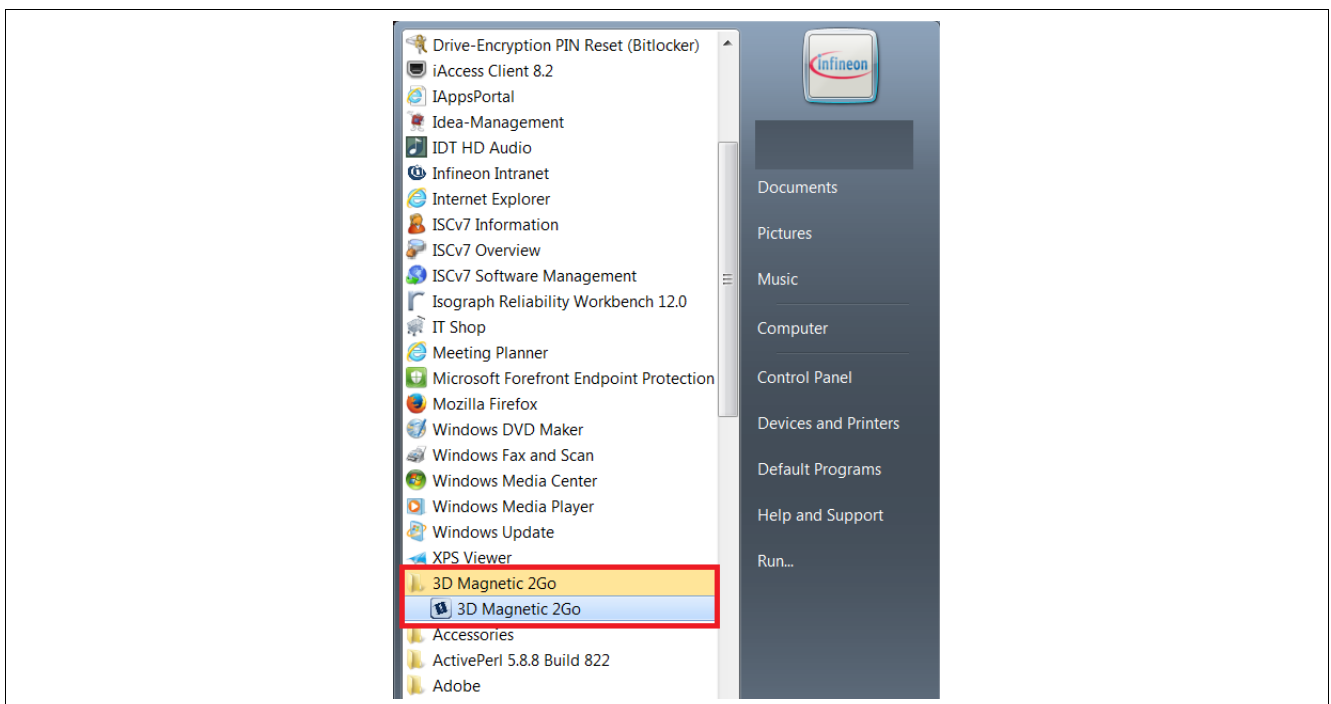

Figure 18 Shortcut to the 3D Magnetic 2Go GUI
Step 2: Open the 3D Magnetic 2Go GUI by clicking the shortcut in the start menu as shown previously in Figure 18. On the top left side click “Flash MCU”. A sub-menu with the option “Flash” appear. Click “Flash” to flash the microcontroller firmware required to run the 3D sensor. The LED blinks while the firmware is being flashed. Flashing the firmware is only required the first time that an EvalBoard is used.